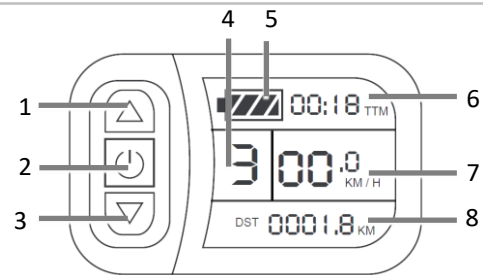

Figure C2 LCD Display panel.
- There are two systems to activate the motor: 6km/h button (press and hold **button (3)**, **Figure C2**) and Pedal Assist.
- Note that the Battery level indicators on the display (Figure C2, 5) will only show an estimate of the battery charge level when power is not being drawn from the battery (bike standing still). While using motor assistance voltage will decrease.
The LCD display panel (Figure C2) controls a number of features on your ebike.